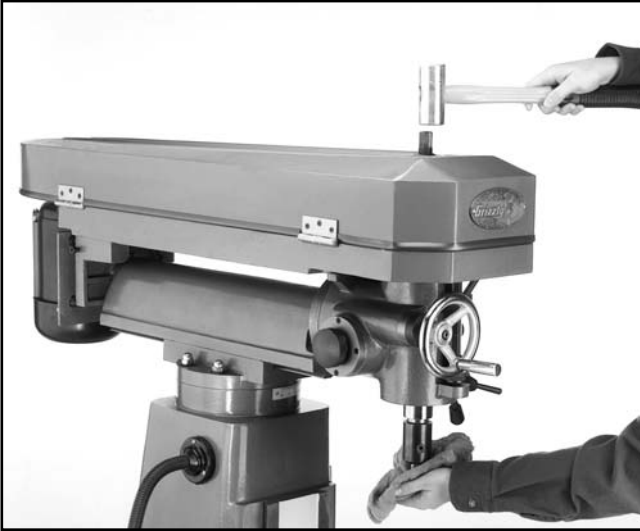

Figure 5. Striking draw bar to loosen cutter.
2. Tap on the top of the drawbar with a soft faced mallet to loosen the collet from the spindle. ***Hold the collet/cutter as in Figure 5 with a shop towel from the bottom to prevent it from dropping completely out of the machine.***